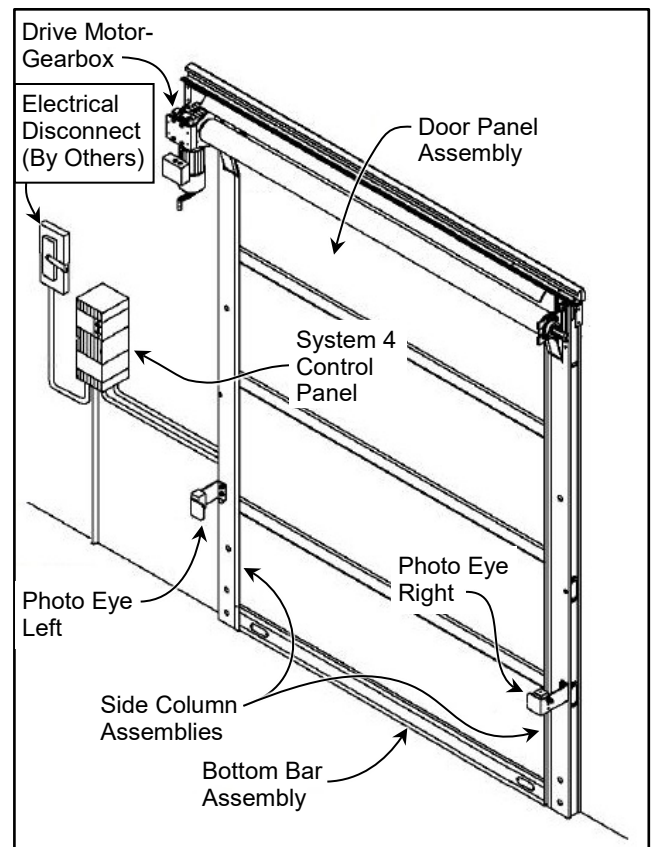
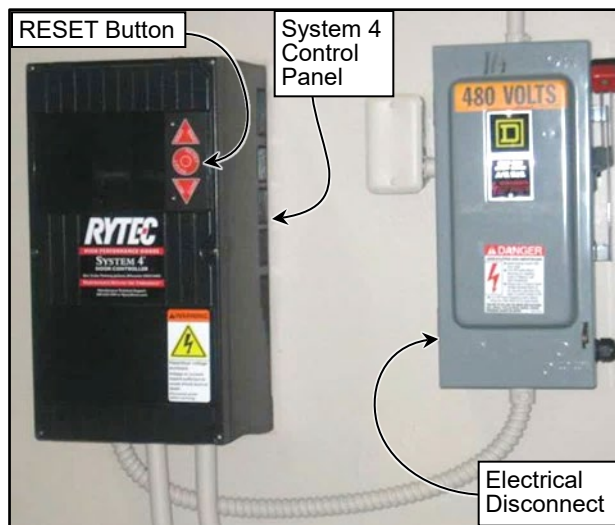

Figure 1
Figure 2
To obtain your DOOR SERIAL NUMBER, there are four (5) universal locations that this information can be attained. These are on the left & right side column assemblies (at approximately 5 ft/eye level), on the drive motor assembly, both outside & inside the door cover of the System 4® Control panel. (See Figure 1)
Figure 1 shows the location of the major components of your PredaDoor® NXT® door. This illustration also shows the general placement of the associated control sub-assemblies for a typical installation.
The PredaDoor® NXT® Door is equipped with the Rytec System 4® Drive & Control, a solid-state, microprocessor-based control system designed exclusively to operate Rytec high-performance doors. It provides connections for multiple activators, close-delay timers, and status indicators. All command functions to operate the drive and control system are software controlled. For information on control panel operation, see the Rytec "System 4®" Drive & Control Installation & Owner's Manual. (See Figure 1 & Figure 2)
field-installed on the back/rear. Each set of photo eyes consist of an emitter module & a receiver module. The purpose of these photo eyes is to serve as a safety device. They will prevent the door from closing or, if the door is closing, reverse the direction of the door if a person or object crosses/breaks one of the photo eye beams and it will move to the fully open position. The photo eyes are not meant to be used as activators to open or close the door & are not active when the door is closed. (See Figure 1)
2. Then press and hold the RESET (●) button on the control panel to reset the control system. (See Figure 2)